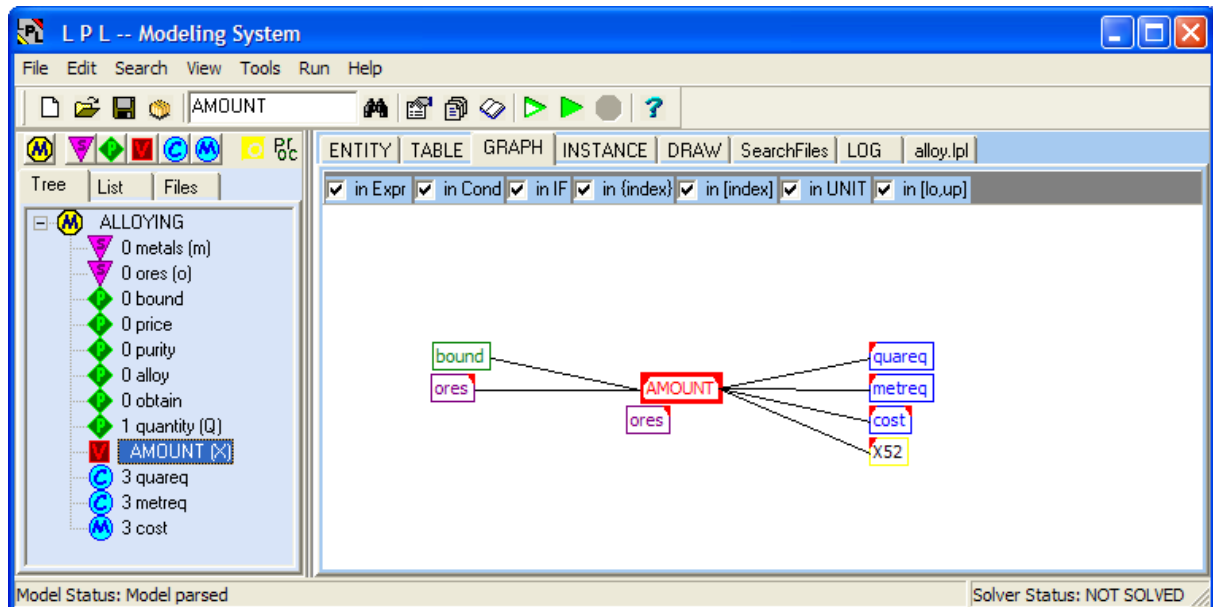

Figure 18: The Dependencies of “AMOUNT”
Click on tab **GRAPH**. Within the **Tree** click on entry **AMOUNT (X)**. The graph as displayed in Figure 18 appears.